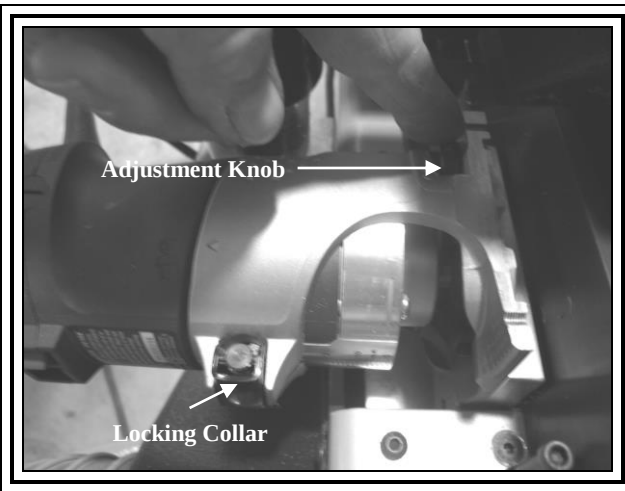

FIGURE 16
9. Top and Bottom Edge Trim Fine Adjustment (Figure 16)